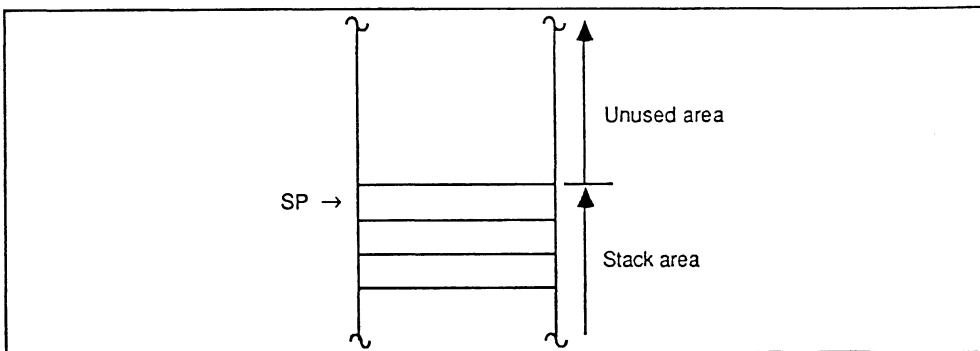

Figure 1.2 Stack Pointer (SP)
Figure 1.2 shows the register structure of the CPU. There are two groups of registers: the general registers (Rn) and the control registers (CR).